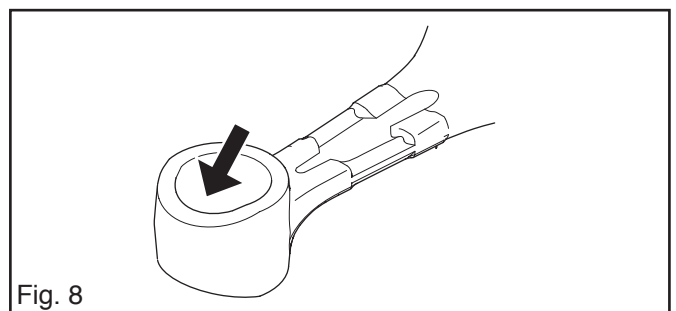

Fig. 8
3. That the bearing surfaces for the little-end do not have any score marks or are discoloured. See fig. 8.